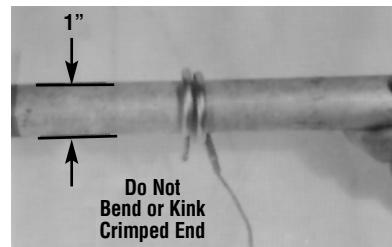

Figure 3
- A. Bending or deforming sensing bulb will alter control calibration — requiring recalibration after installation. SEE CALIBRATION section, page 3. If necessary, Style 9 bulbs can be coiled to 1" I.D. (See Figure 3.)